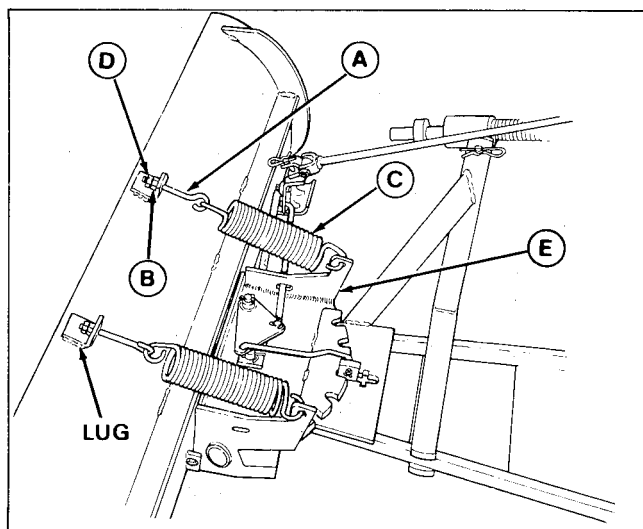

Figure 4. Attaching Springs (46" Blade Shown)
3. Insert eyebolt through looped end of spring. Align the openings to hook spring to eyebolt. Insert eyebolt (A, figure 4) thru lug on blade and screw on nut (B) only far enough so that it is flush with the end of the eyebolt.
4. Stretch the spring with a pliers to hook spring (C) into pivot frame (E).
The 46" blade is illustrated in figure 4. Eyebolts and springs are mounted in similar manner for the 42" blade.